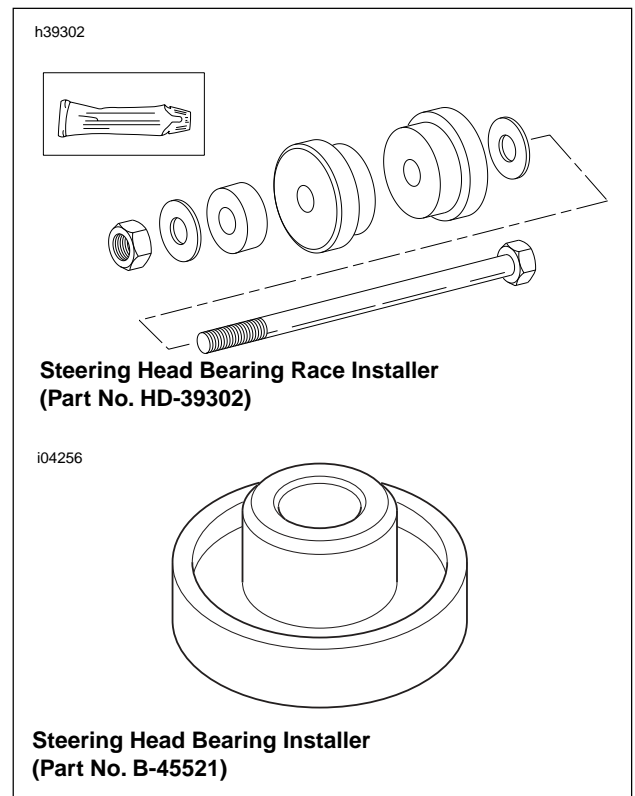

Figure 2-74. Steering Head Bearings Installation Tools
1. See Figure 2-74. Install **new** upper and lower steering head bearings into the steering stem using STEERING HEAD BEARING RACE INSTALLER (Part No. HD-39302), and the STEERING HEAD BEARING INSTALLER (Part No. B-45521).
- b. See Figure 2-74. Insert the steering head bearing installation tool into the upper bearing, with the shoulder into the bearing bore.